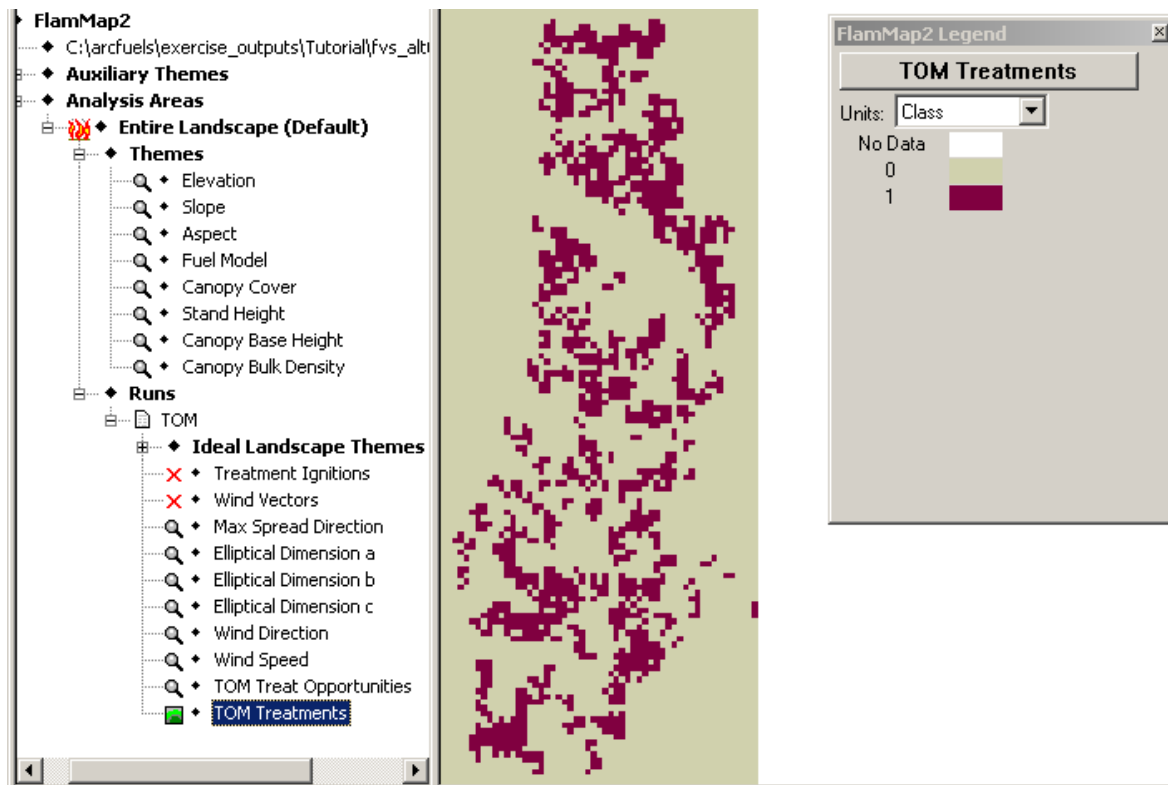

Figure 4-63—The TOM Treatment output.
- 7) Display the TOM Treatments theme (fig. 4-63). The TOM Treatments theme displays the suggested treatment locations (value = 1).